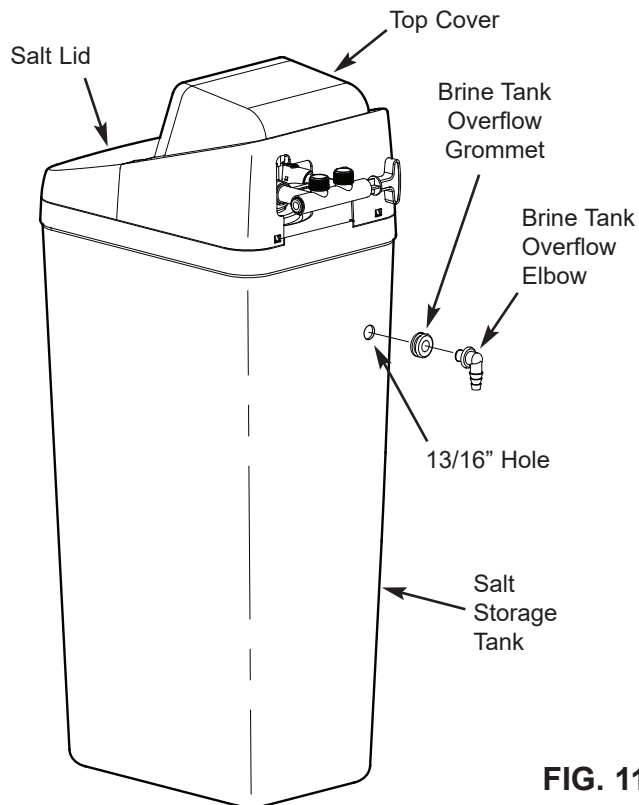

FIG. 11
1. EcoPure models are factory assembled. During installation, unsnap and remove the top cover, together with the salt lid (See Figure 11), to expose the softener valve assembly. Set them aside to prevent damage.
2. Install the brine tank overflow grommet and elbow into the 13/16" diameter hole in the back of the salt storage tank wall (See Figure 11).